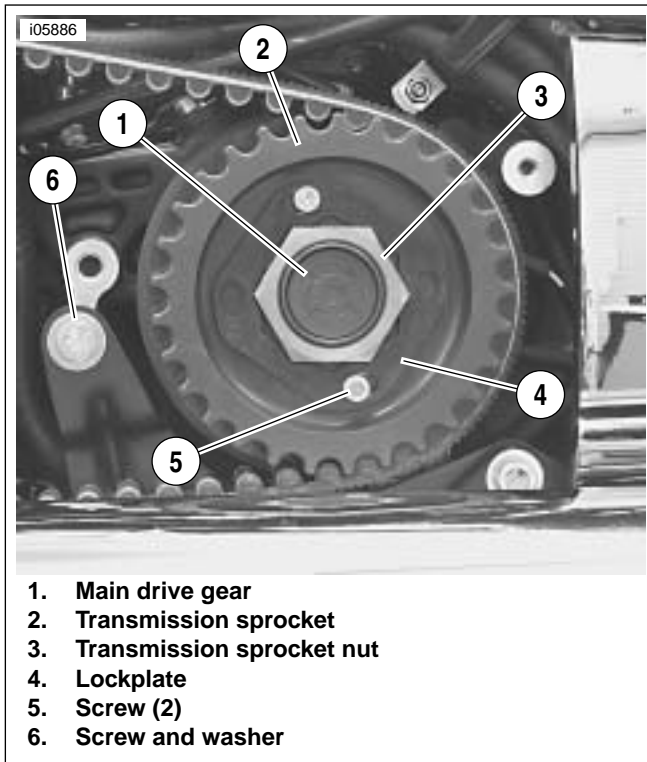
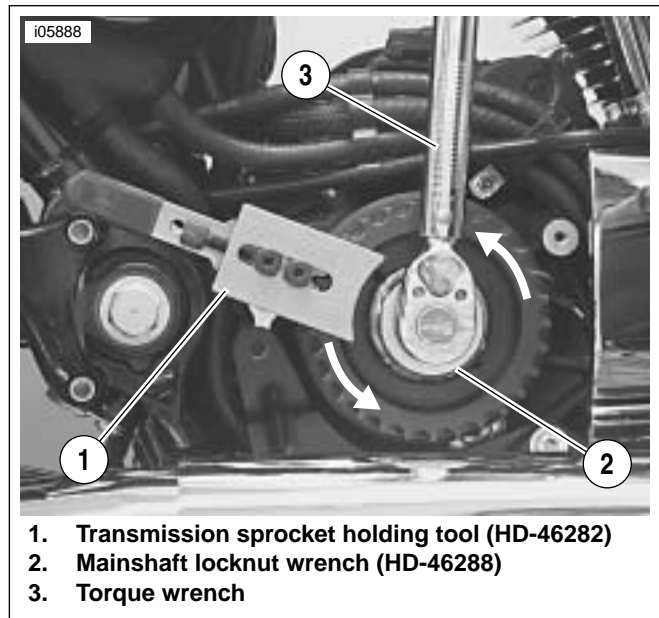

Figure 3. Transmission Sprocket Assembly
Figure 6. Installing Transmission Locknut
3. See Figure 3. Remove screw and washer (6) from exhaust interconnect bracket.
4. Remove two screws (5) and lockplate (4).
1. See Figure 3. Install transmission sprocket (2) onto main drive gear (1).
2. Shift transmission into neutral. Apply a few drops of LOCTITE THREADLOCKER 262 (red) to the **left-hand threads** of transmission sprocket nut (3). Position nut with washer-faced side facing transmission sprocket. Turn the nut **counterclockwise** to install it onto main drive gear.
- a. See Figure 6. Use TRANSMISSION SPROCKET HOLDING TOOL (Part No. HD-46282) (1), MAIN-SHAFT LOCKNUT WRENCH (Part No. HD-46288) (2), and a torque wrench (3). Place handle of sprocket holding tool on top of footpeg bracket.
- b. See Figure 3. Tighten sprocket nut (3) according to the procedure described in the service manual.
- c. Install lock plate (4) over nut and tighten screws (5) according to the procedure described in the service manual.